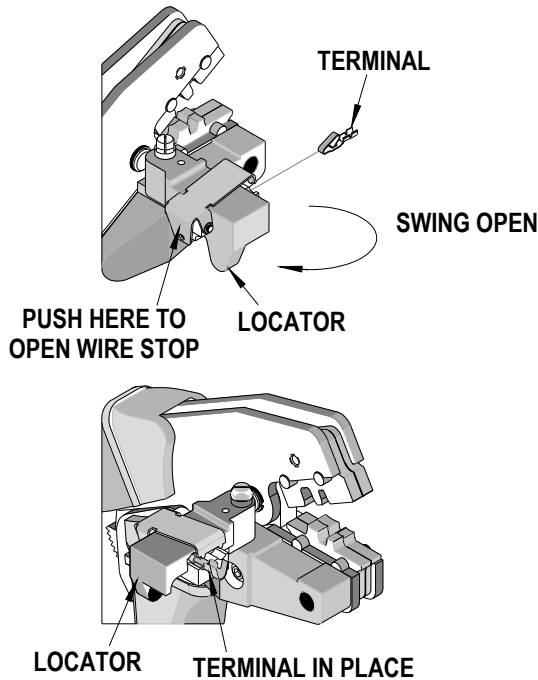

Figure 4
2. Swing the terminal locator away from the crimp tool shown in Figure 4. Gently press on the locator to open the wire stop. Some terminals with large insulation grips may interfere with the crimp tooling when swinging the locator into position. The terminal must then be loaded into the locator in the closed/crimp position.
3. When using the locator, swing the locator away from the crimp tool, and gently press the locator against the tool frame as shown in Figure 4. The wire stop will automatically open. Insert the proper terminal into the proper nest opening. Make sure when choosing the nest opening, it will correspond with the A or B profile on the hand tool.